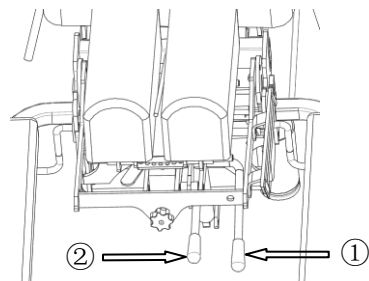

Figure 6
Lift up the pull rod ① in Figure 6 to adjust head plate angle.
Lift up the pull rod ② in Figure 6 to activate the head plate drop section. Then press down on the head plate to achieve the effect of the drop pressure.